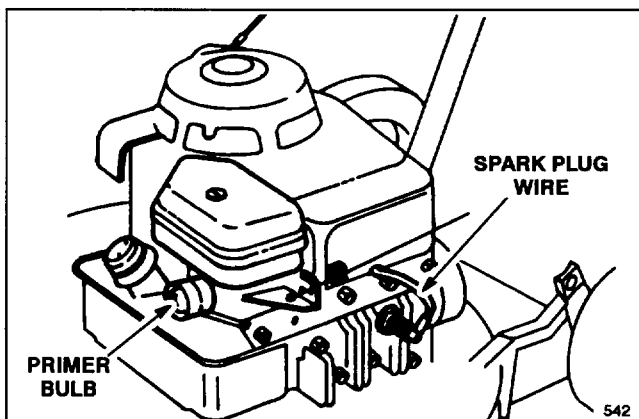

Figure 9
2. Push wire onto spark plug (Fig. 9).
4. Push primer bulb (Fig. 9) three times to start.